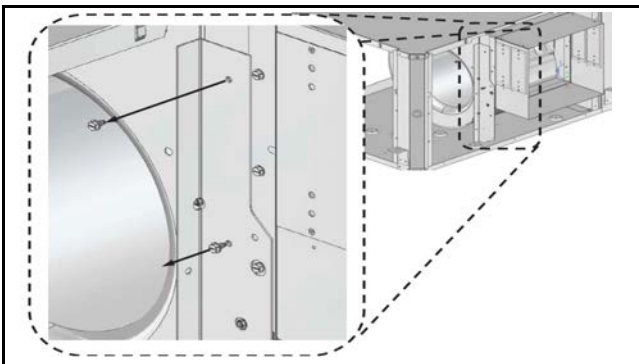

Fig. 31
8. Remove the remaining vertical blower bracket by removing the two screws and retain. (See Fig. 31.)